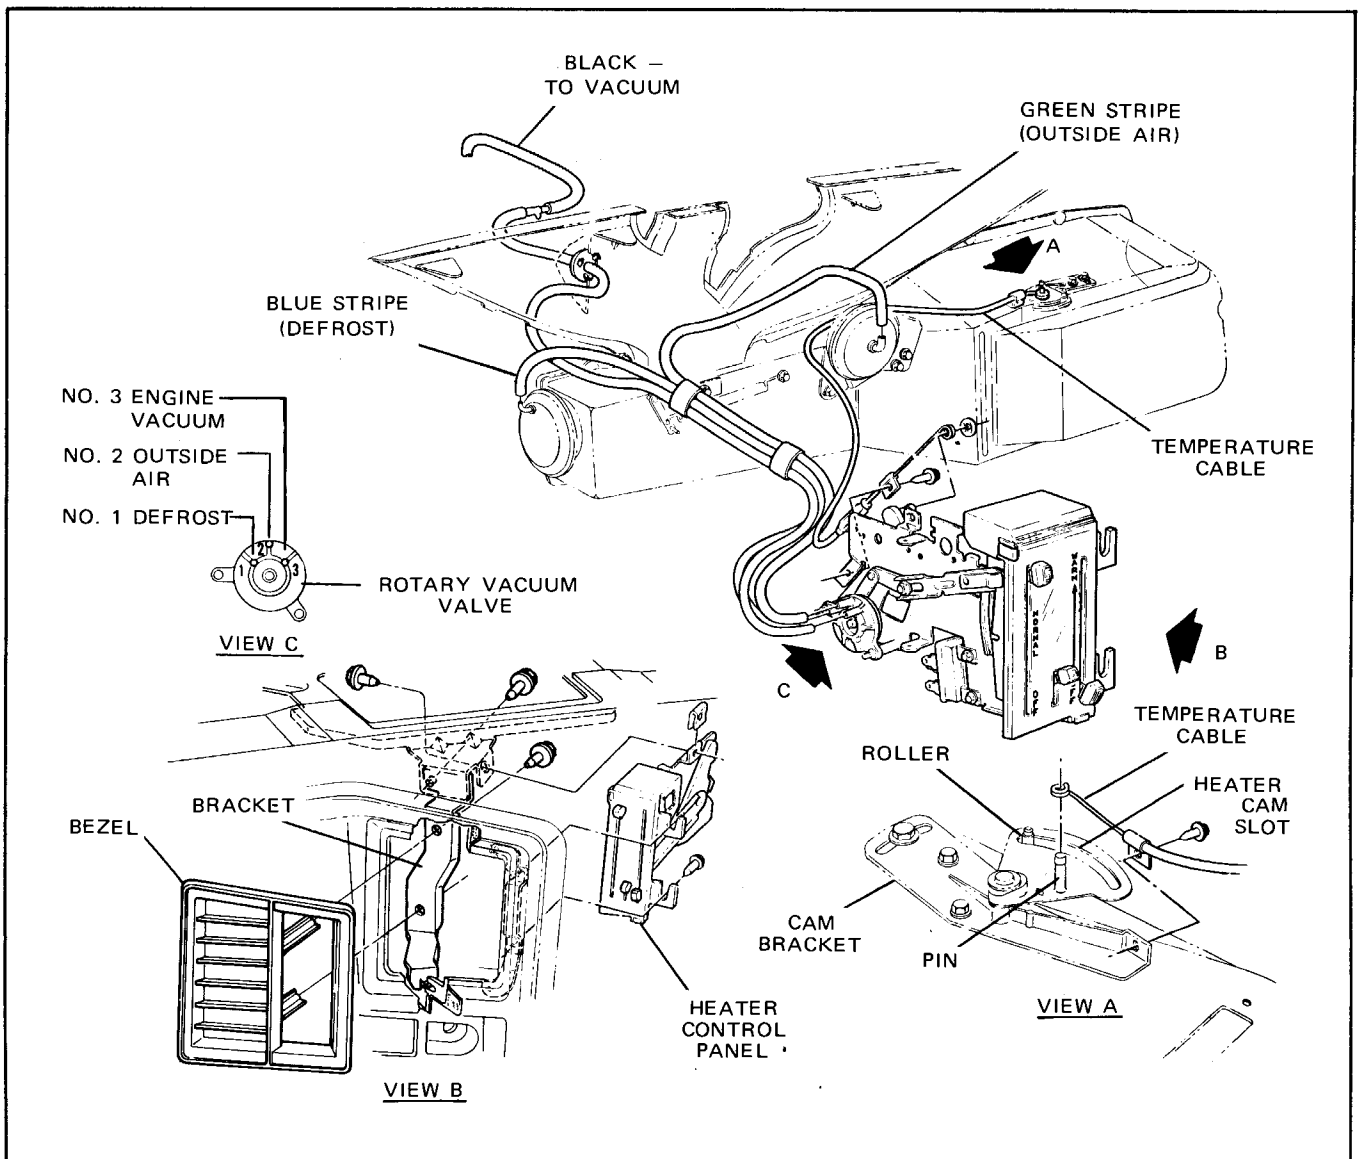

Fig. 1-11 G Series Control Cable and Vacuum Hose Routing
2. Adjust cable turnbuckle (Fig. 1-11) until cam roller on heater case bottoms at end of heater cam slot.
6. To replace cable, reverse removal procedure. Route cable smoothly, check operation and adjust if necessary. See Figs. 1-11, 1-12 and 1-13 for G, A and F Series respectively.